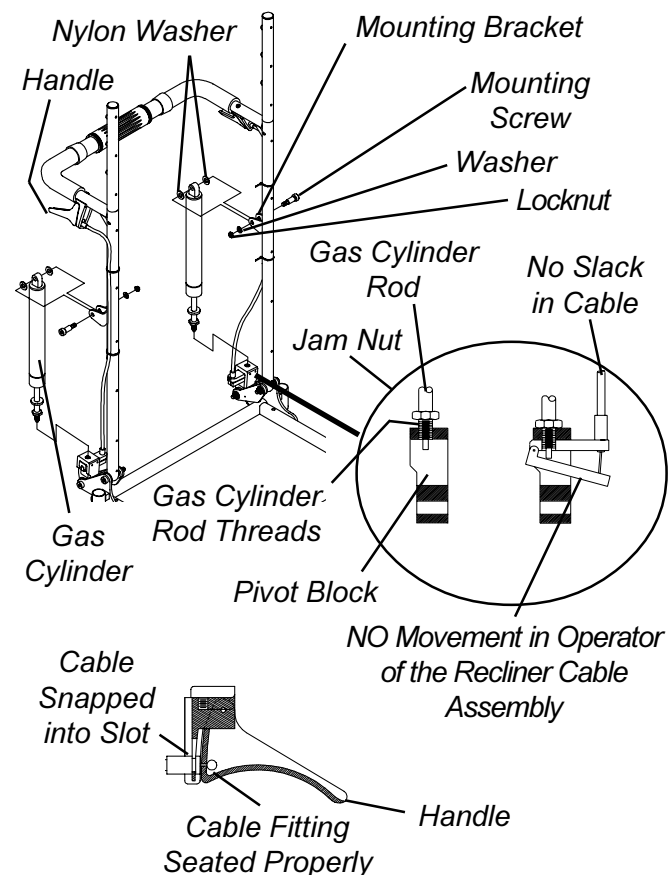

FIGURE 4 - REPLACING/ADJUSTING GAS CYLINDERS
## REPLACING/ADJUSTING GAS CYLINDERS (FIGURE 4)
4. Screw cylinder rod of the NEW gas cylinder into the pivot block until the threads of the cylinder rod are flush with inside of pivot block (FIGURE 4).
- A. Finger tighten the jam nut on the rod of the gas cylinder until it bottoms out on the rod of the cylinder (**FIGURE 4**).